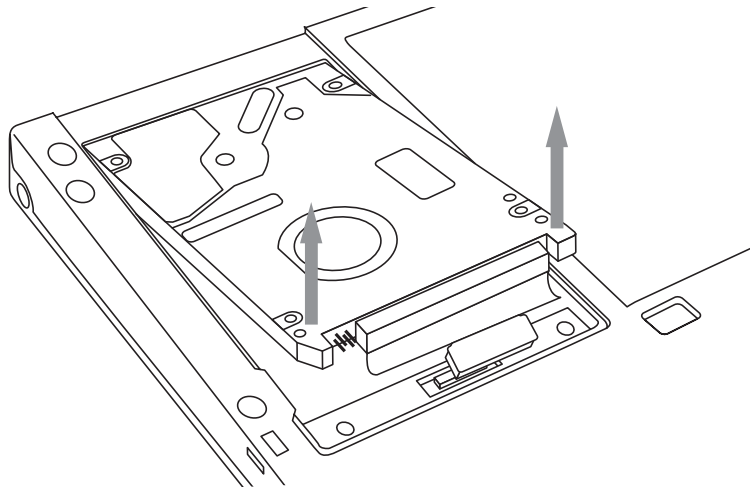

Figure A-4: Removing the Hard Disk Drive, Part 2
- While pushing back on the hard drive, lift the connector end out of the tray, as illustrated in Figure A-4.